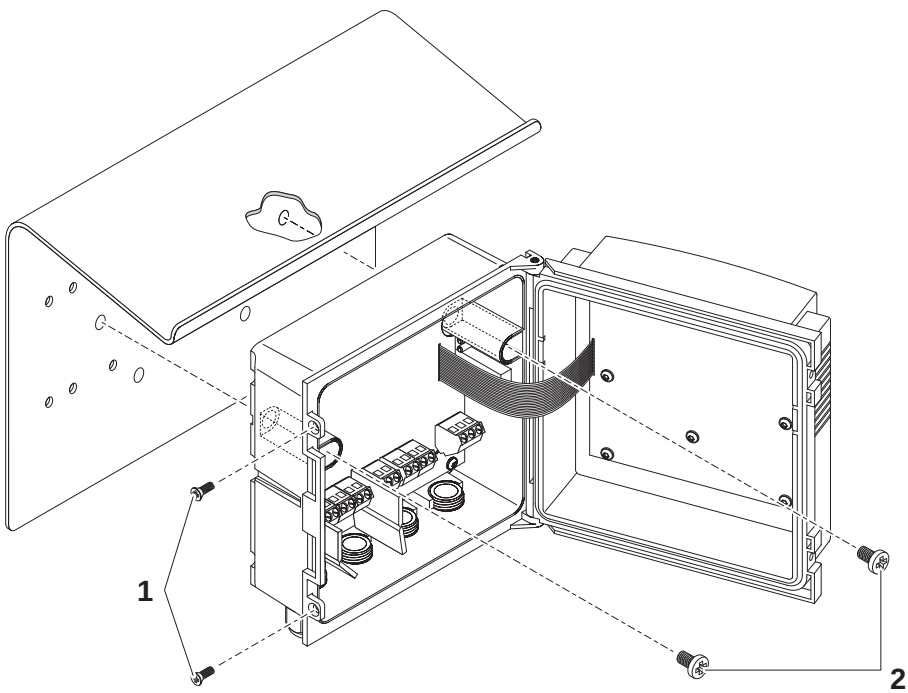

Fig. 3-18 Mounting the Universal Transmitter with the SD/K 170 sun shield
1	Remove the two countersunk screws (pos. 1 in Fig. 3-18) and swing open the module lid.
2	Position the Universal Transmitter on the sun shield and fix it into place with the two screws (pos. 2 in Fig. 3-18).
| 3 | Close the lid and fix it with the two countersunk screws (pos. 1 in Fig. 3-18). |